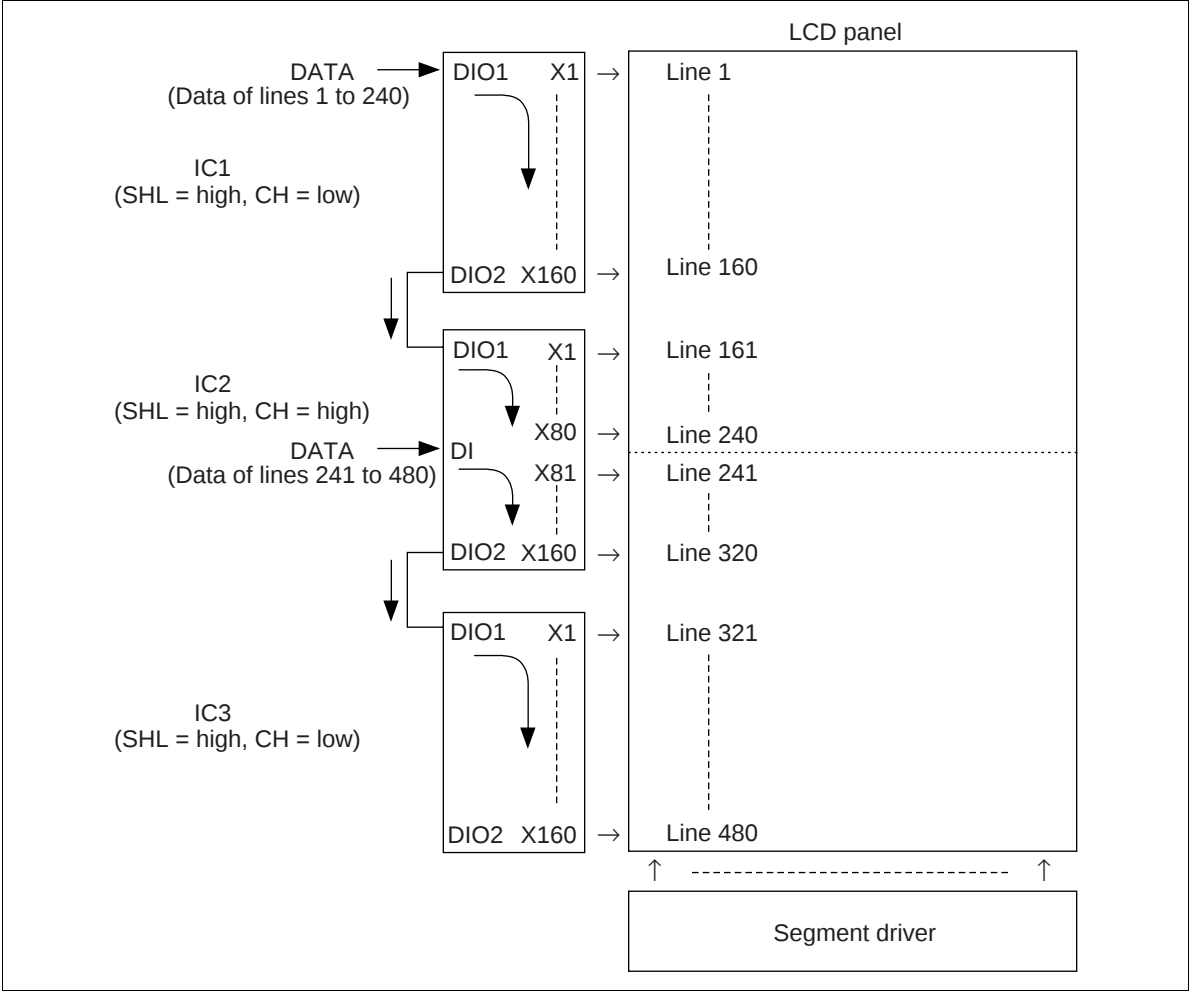
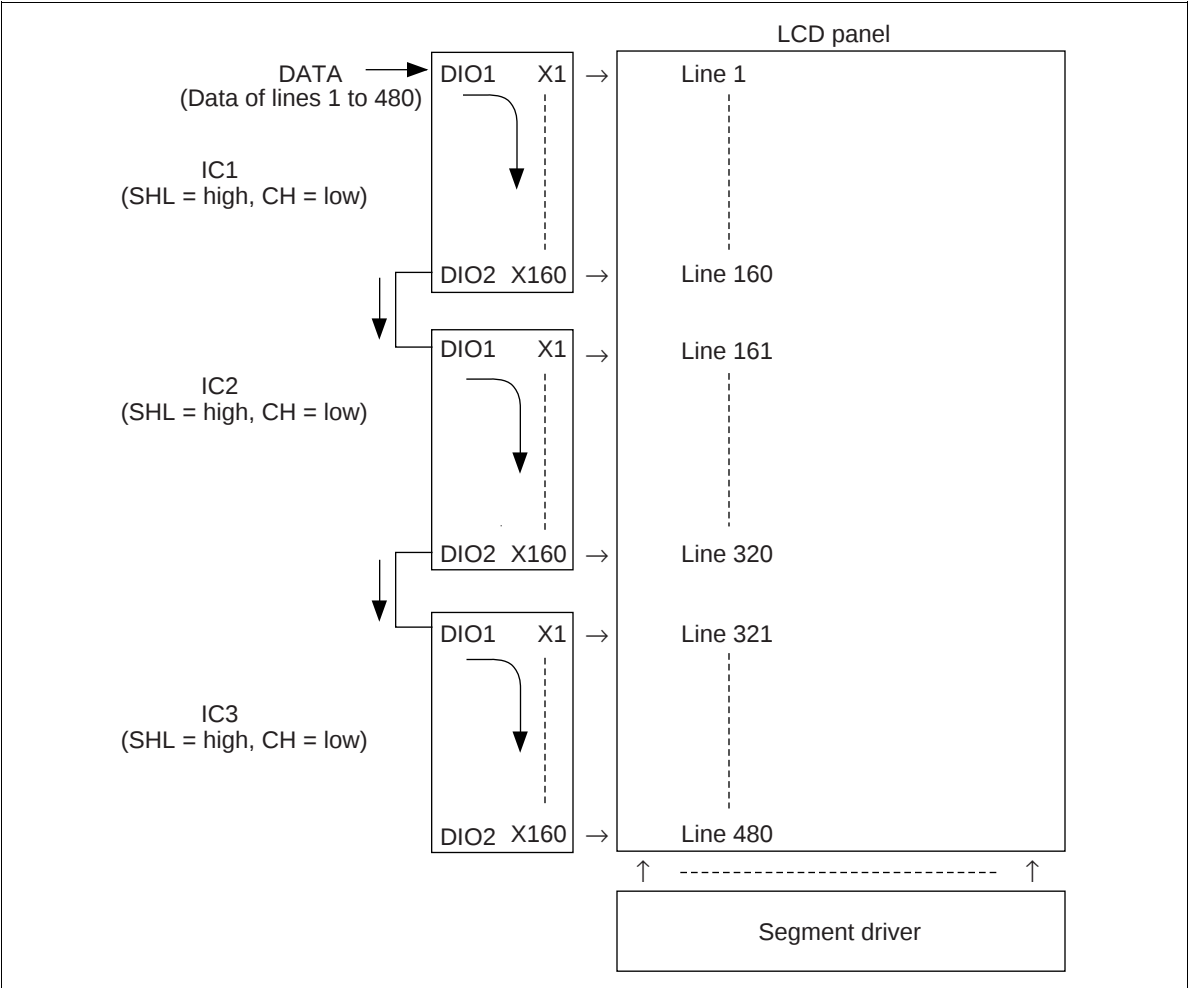

Figure 9 Dual-Screen Configuration of a 480-Line LCD Panel with a 1/240 Duty Cycle (1)
Figure 11 Single-Screen Configuration of a 480-Line LCD Panel with a 1/480 Duty Cycle (1)
Figures 9 and 10 show examples of how HD66115Ts can be configured to drive a 480-line LCD panel with a 1/240 duty cycle. Figures 11 and 12 show examples of how HD66115Ts can be configured to drive a 480-line LCD panel with a 1/480 duty cycle. The HD66115T's 160 channels can be divided into two groups of 80 channels, and its data shift direction can be changed by selecting the data output mode pin (CH) and data shift pin (SHL), respectively.